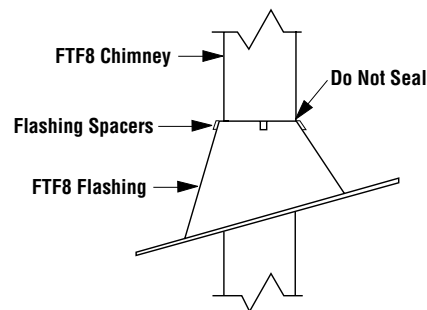

Figure 26
Next, slide roof flashing over extended chimney section that previously has been installed above the roof opening in Step 4. FTF8 flashings require flashing spacers. Slide flashing all the way down until the flashing base rests flat on the roof (Figure 26). Again, check the vertical position of the chimney and the 2" minimum air space to combustibles (see ****Note**).
Step 1. Use Offset Chart to determine amount of horizontal offset (A) and height (B) for various chimney section assemblies.
Step 3. Use Elevation Chart as job estimator only. Add necessary firestop spacers and stabilizers as required. Firestop spacers must be used as shown in *Figures 21 and 22* and stabilizers as shown in *Figure 26*.